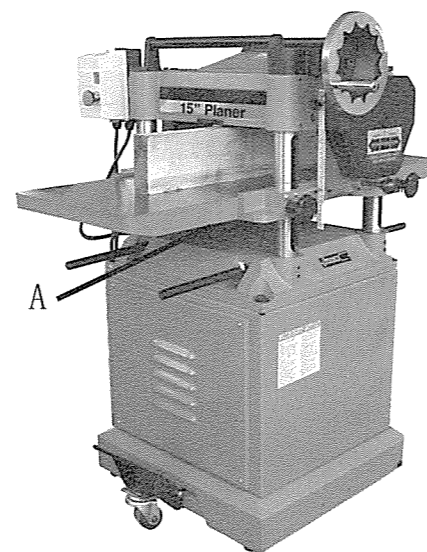

Fig. 14
The table extension can be mounted to the table for regular position using the Hex Hd. Screws (A) (unshown) and washers supplied, as shown in Fig.14.
Place a straight edge between the table extension and the table, as shown in Fig.14 to check the table extension and the table are at the same height.